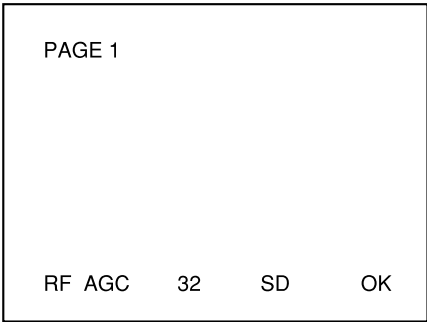

Fig. 1-6
- Using the volume keys on the jig remote controller, adjust the test point voltage becomes to $3.5V \pm 0.3V$. And at the same time, confirm AFT status changes to “OK” as shown in the fig. 1-6.